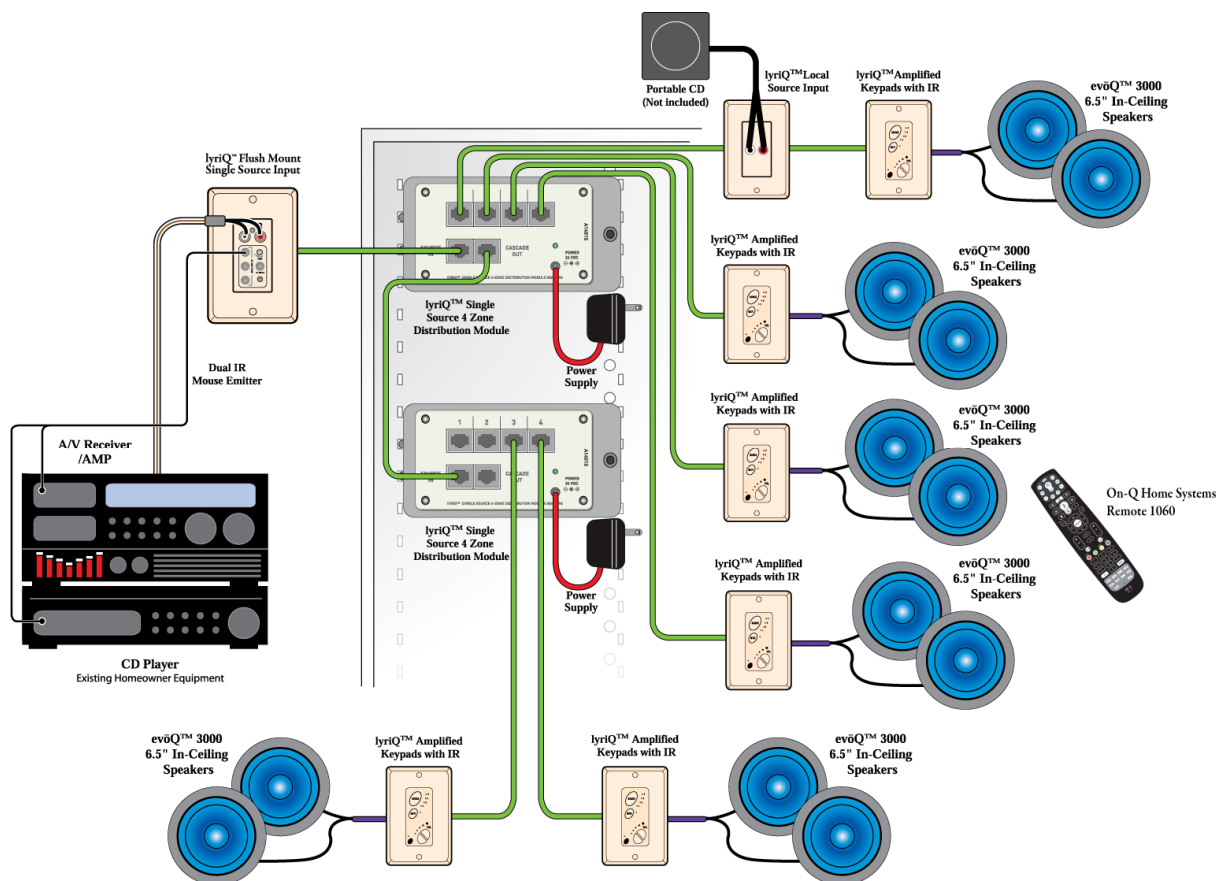

Figure 4
- b) To connect more than four (4) Keypads to a Single Source 4 Zone Module or more than eight (8) Keypads to a 4 Source 8 Zone Module, cascade Single Source Modules. To cascade a Single Source Module, simply run a Category 5 jumper from the “Cascade Out” RJ45 jack on the front panel of the first Module to the “Source In” RJ45 jack on the front panel of the second Module (see **Figure 4**).